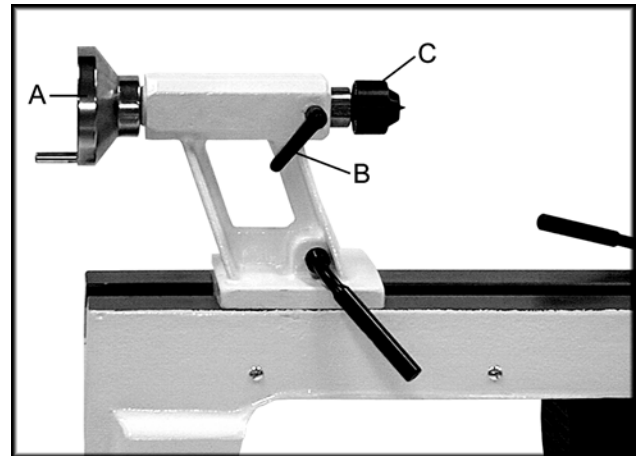

Fig. 9
1. Loosen tailstock lock handle (B, Fig. 9).
2. Turn the tailstock handwheel (A, Fig. 9) counter-clockwise until the live center (C, Fig. 9) ejects from the spindle.